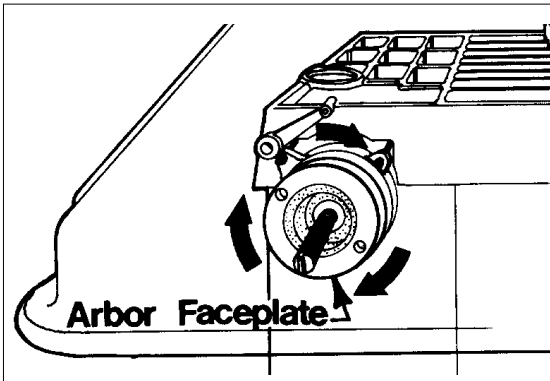

Figure 7 - Slot on the Hood Bracket
3. OPERATION - Mount a wheel on the shaft, lower the hood, and push the START button. The arbor faceplate should rotate clockwise (figure 7).